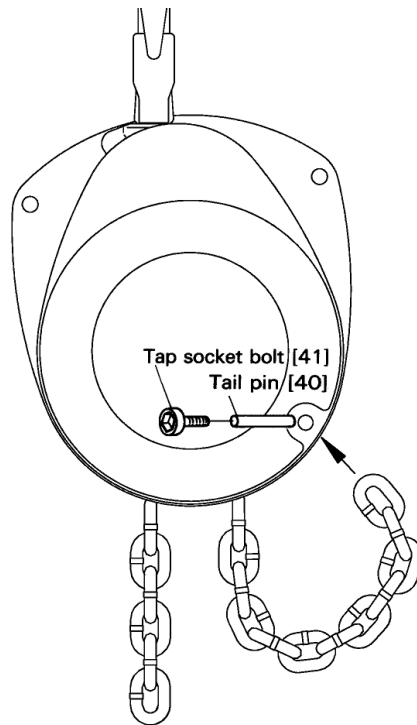

Figure 6-12 Tail Pin Install
- 6.5.10 Attach the end of the load chain on the right side of the load sheave to the tail pin [40]. Refer to Figure 6-12. Make sure there are no twists in the chain.